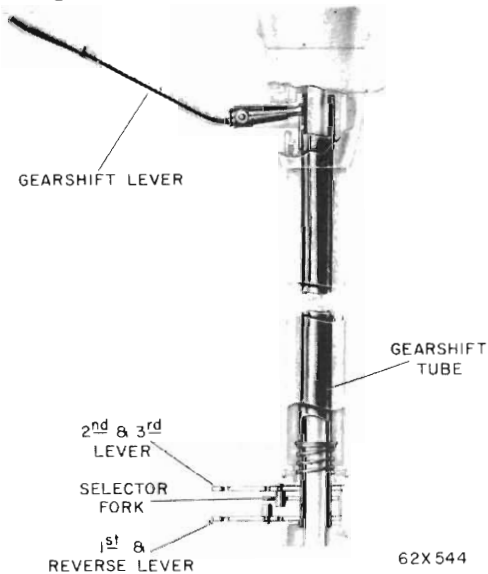

Fig. 2 – Steering column with concentric gearshift (typical)
The concentric gearshift utilizes a shift tube inside the steering column jacket to transmit shift lever motions to the lower shift linkage (see Fig. 2). The shift mechanism is supported by resin bearings and requires very little maintenance.
(5) Position the isolator in the inside diameter of the floor plate, and install the floor plate on the steering column with insulated side down.
(13) The gearshift lever insulator (*see Fig. 2*) should be examined, and if any wear or damage is evident, it should be pulled off the lever and replaced.